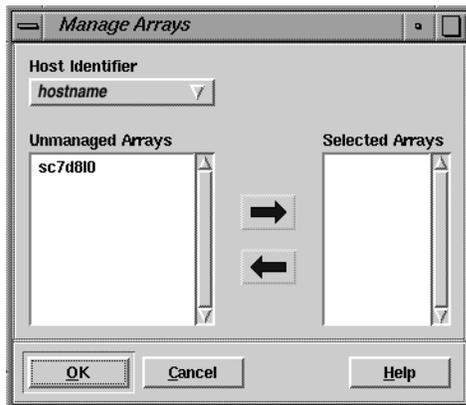

Figure 2-4 Manage Arrays Window
1. Choose Manage Arrays from the File menu. The Manage Arrays window opens, as shown in Figure 2-4.
2. If the Host Identifier field does not contain the name of the server with the unmanaged arrays that you want to start managing, pull down its selection list and select the server's hostname (or type it in the Host Identifier field). The names of the server's unmanaged arrays appear in the Unmanaged Arrays list on the left, as shown in Figure 2-4.